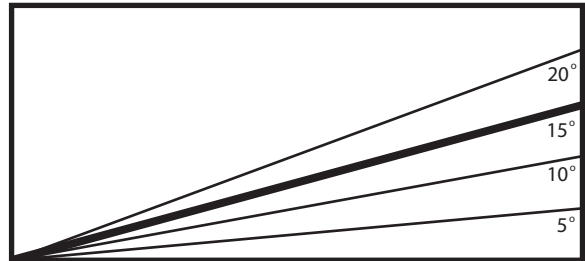

Figure 2-4. Slope Angle Graph
DO NOT operate on steep slopes. To check a slope, attempt to back up it (with the cutter deck down). If the machine can back up the slope without the wheels slipping, reduce speed and use extreme caution. Under no circumstances should the machine be operated on slopes greater than 15 degrees. See Figure 2-4, Page 7 to determine approximate slope of area to be mowed. ALWAYS FOLLOW OSHA APPROVED OPERATION.
19. Be cautious when loading and unloading onto trailers or trucks. Use only a full width ramp. Ramp angle should be no more than 15 degrees. See Figure 2-4, Page 7 to determine approximate slope of the ramp. Back up the ramp and drive down forward.
Stay off of slopes too steep for safe operation. To check a slope, attempt to back up it (with the cutter deck down). If the machine can not back up the slope without the wheels slipping, do not operate the machine on this slope. Under no circumstances should the machine be operated on slopes greater than 15 degrees. See Figure 2-4 to determine approximate slope.
Ramp angle should be no more than 15 Degrees. See Figure 2-4 to help determine approximate slope.